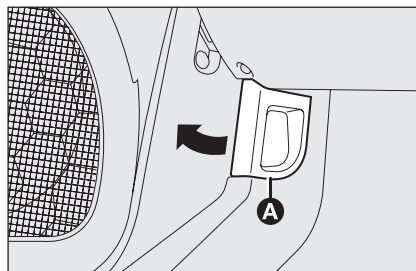

fig. 122
- ☐ pull lever **A**-fig. 122 in the direction of the arrow;